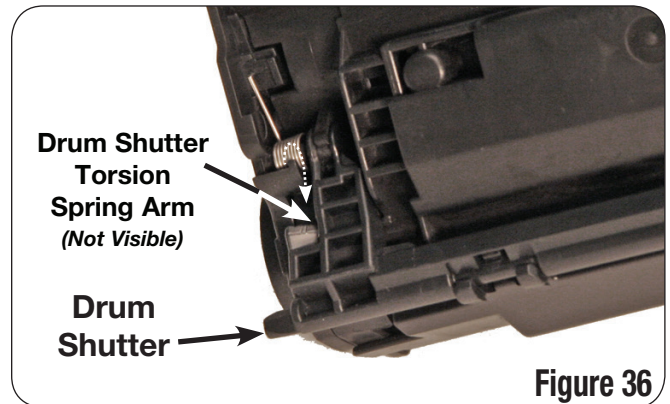

Figure 36
38. Release the shutter torsion spring arm from the indent on the drum plate (Figure 36). Open and close the drum shutter to ensure the spring is engaged.